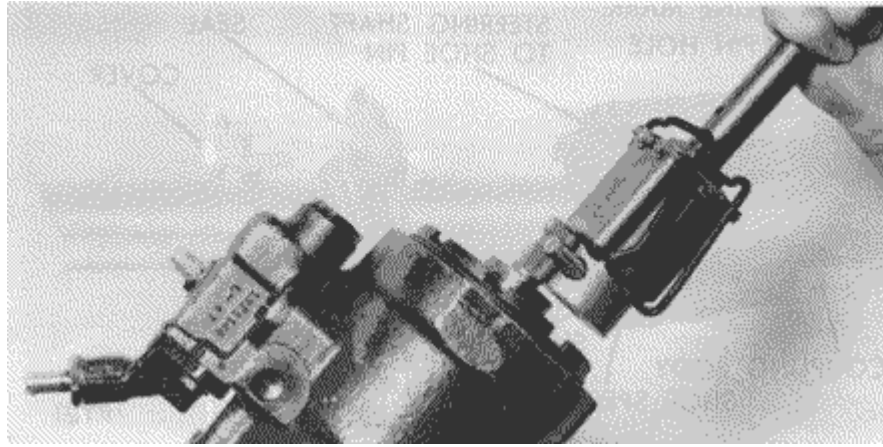

FIGURE 4: STEERING COUPLING TO GEAR ALIGNMENT
1. Position clamp over cover next to steering shaft with long open legs downward. (Figures 4 & 5)
3. Rotate clamp so that long legs are on roll pin side of coupling. (Figure 4)